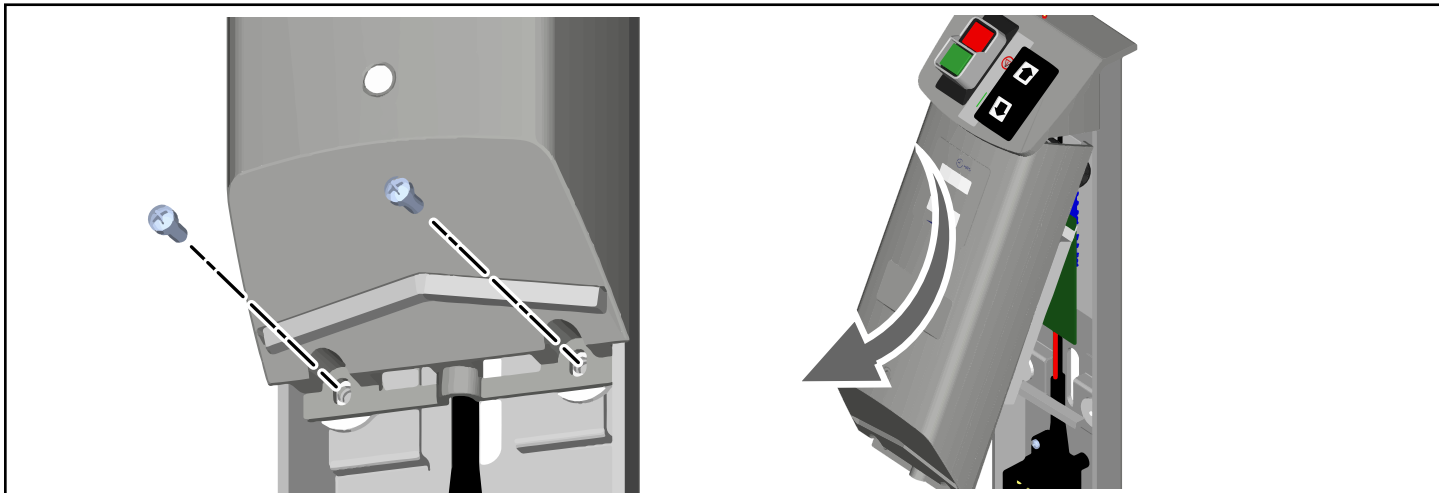

Fig. 18
1. Remove control box cover (refer to Fig. 18).
1. Insert the top end of the cover under the switch panel (refer to Fig. 18).